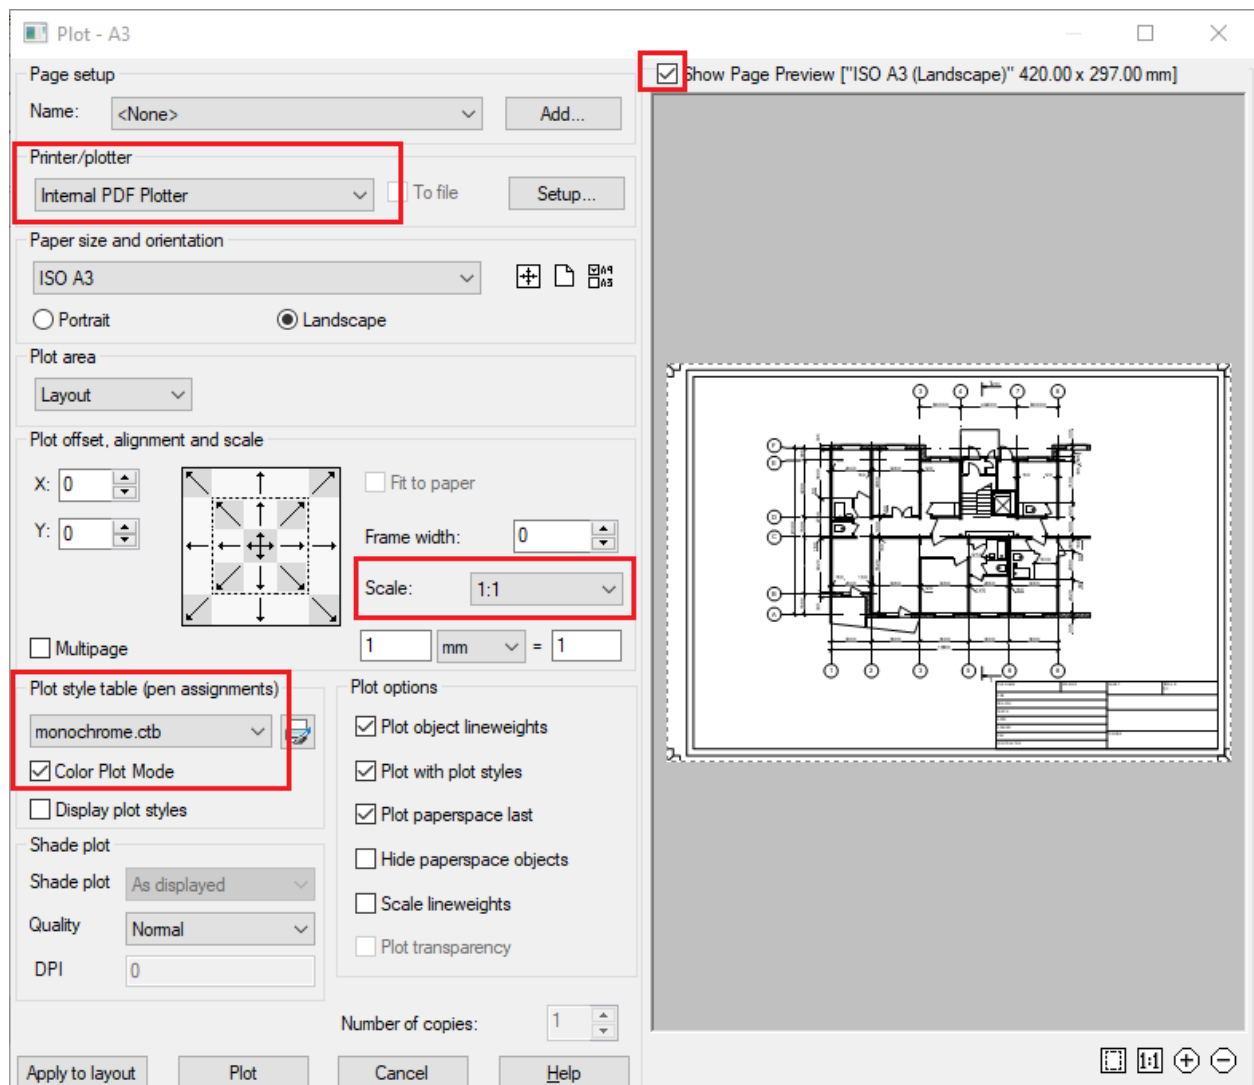

Fig. 51. The Plot manager
6.3. Use the **Internal PDF Plotter**. Set **A3** paper size, 1:1 scale. Select the **Show Page Preview** option. Specify the **Plot Style table – monochrome.ctb** (fig. 51):